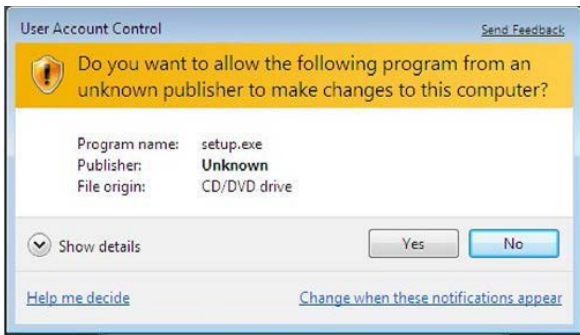
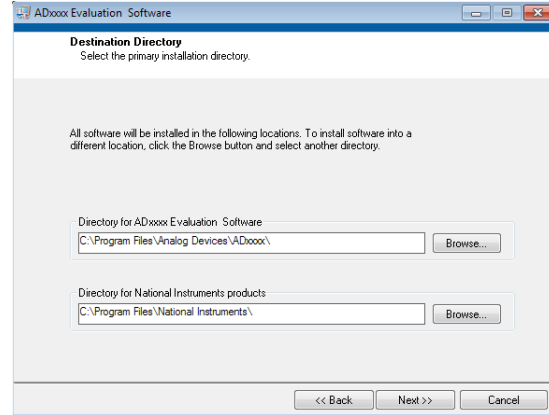
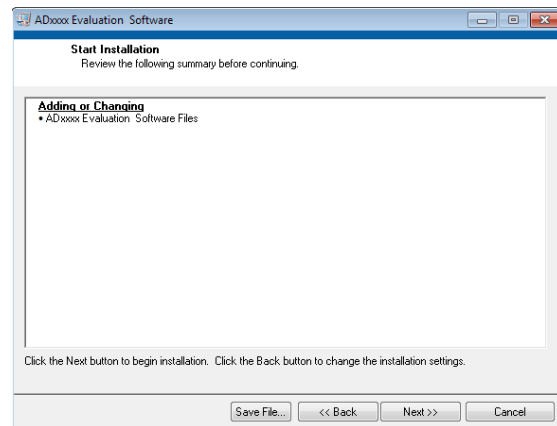

Figure 2. User Account Control Dialog Box
Figure 3. Destination Directory Window
Figure 4. Start Installation Window
| Changes to Installing the Evaluation Software Section, Figure 2 Caption, Figure 3 Caption, Figure 4 Caption, and Figure 5 Caption | 6 |
3. A dialog box appears asking for permission to allow the program to make changes to the PC. Click **Yes** to begin the installation process (see Figure 2).
4. Select a location to install the software, and then click **Next** (see Figure 3).
6. A summary of the installation appears. Click **Next** to continue (see Figure 4).